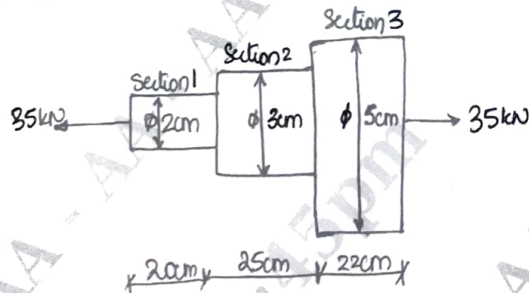

Fig. Q2 (b)
b. An axial pull of 35 kN is acting on a bar consisting of 3 lengths as shown in Fig. Q2 (b). If young's modulus = $2.1 \times 10^5 \text{ N/mm}^2$. Determine : (i) Stresses in each section and (ii) Total extension of the bar.